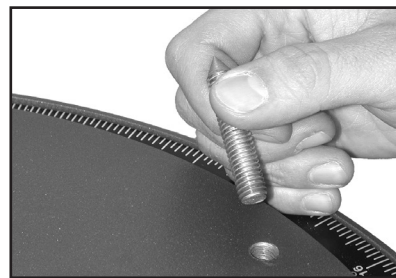

Fig. 30: Remove the pointed bolts from the drive base.
1. Remove the three pointed bolts that hold the packing material in place. These bolts are used only for shipping purposes and not used in the telescope assembly procedure. See Fig. 30.